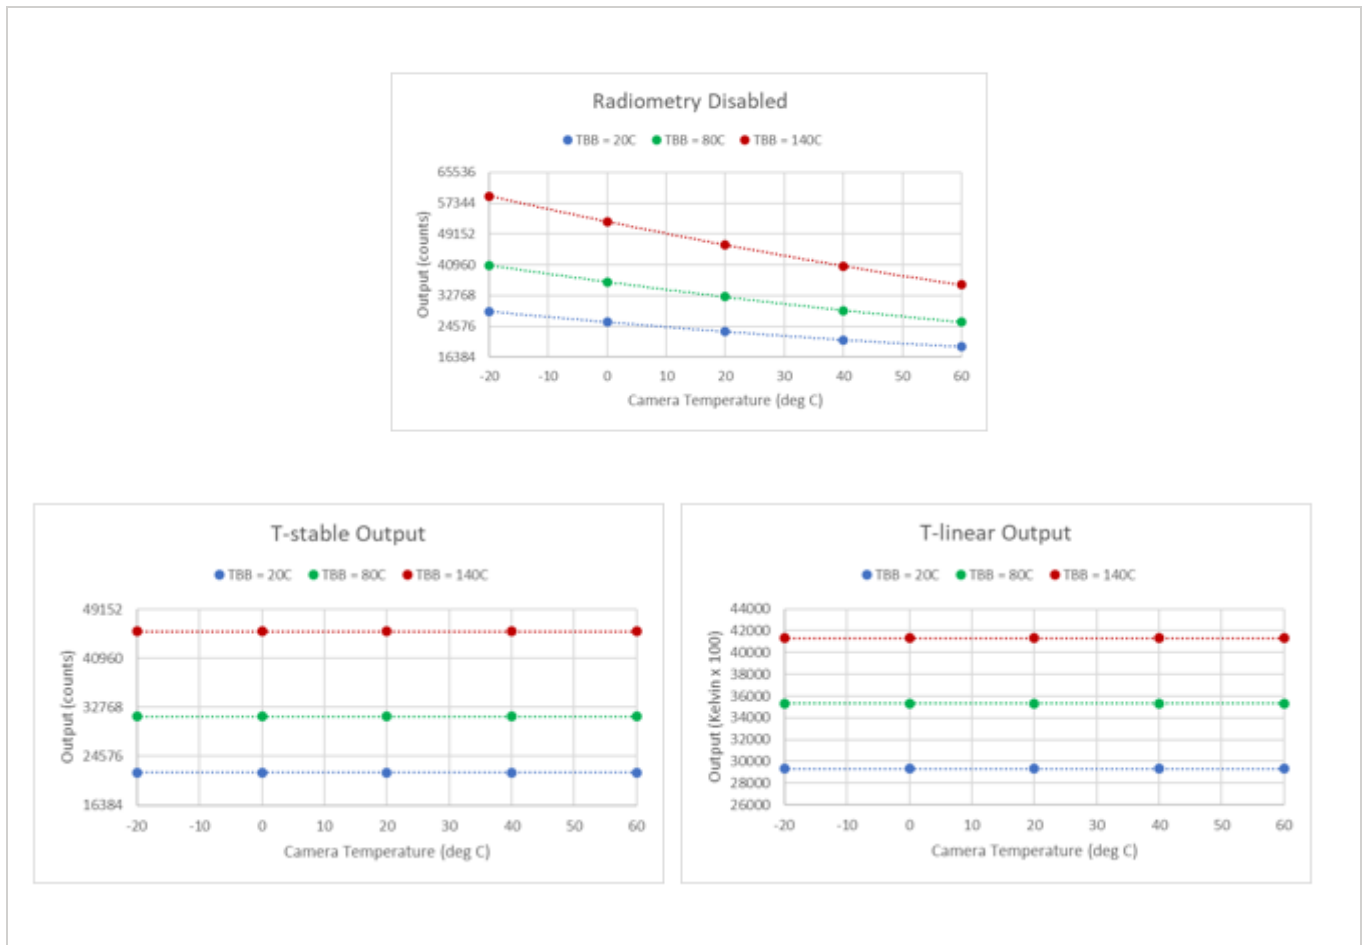

FIGURE 14: OUTPUT VS. CAMERA TEMPERATURE COMPARISON: RADIOMETRY DISABLED, T-STABLE, AND T-LINEAR
Some configurations of Boson+ provide the option of radiometric output. For such configurations, the 16b output (14b output with MIPI) can be configured to “temperature stable” or “temperature linear” as described below and depicted in Figure 14.
- **Temperature-stable output:** 16b output (14b output with MIPI) value is intended to be proportional to scene-flux only and independent of camera temperature. When imaging a given scene, the output image is stable even if the camera’s temperature varies, as shown in the middle graph of Figure 14. By comparison, output varies significantly with camera temperature when radiometry is disabled, as illustrated in the left-most graph.
- **Temperature-linear output:** 16b output (14b output with MIPI) value is intended to be directly proportional to scene temperature. In high-gain state, the value corresponds to scene-temperature in Kelvin multiplied by 100 (25 with MIPI output), and in low-gain state corresponds to Kelvin multiplied by 50 (12 with MIPI output). For example, expected output in high-gain state when imaging a 20°C BB is $(20^{\circ}\text{C} + 273.15) * 100 = 29,315$, as depicted in the right-most graph of Figure 14. In practice, radiometric error prevents an output that corresponds perfectly with scene temperature. See Section 11.5 for a discussion of radiometric accuracy.